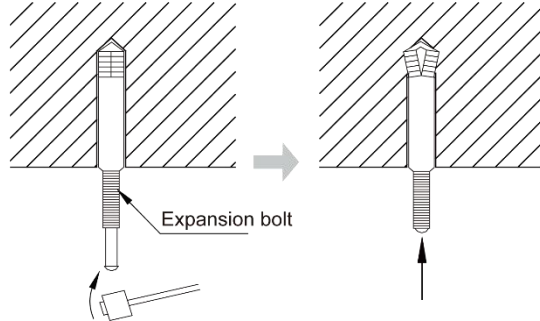

Fig. 4.1.4
- 2) Insert the M10 expansion bolt into the hole and then knock the nail into the bolt, as shown in fig. 4.1.4.